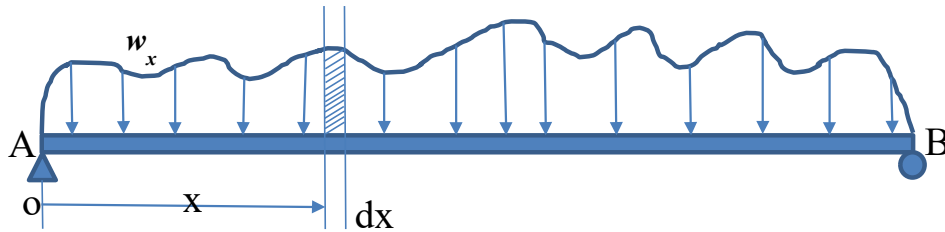

Figure 2.8
- A simple beam with a varying load indicated by $w(x)$ is sketched in Figure 2.8. The coordinate system with origin at the left end A is established and distances to various sections in the beam are denoted by the variable x .